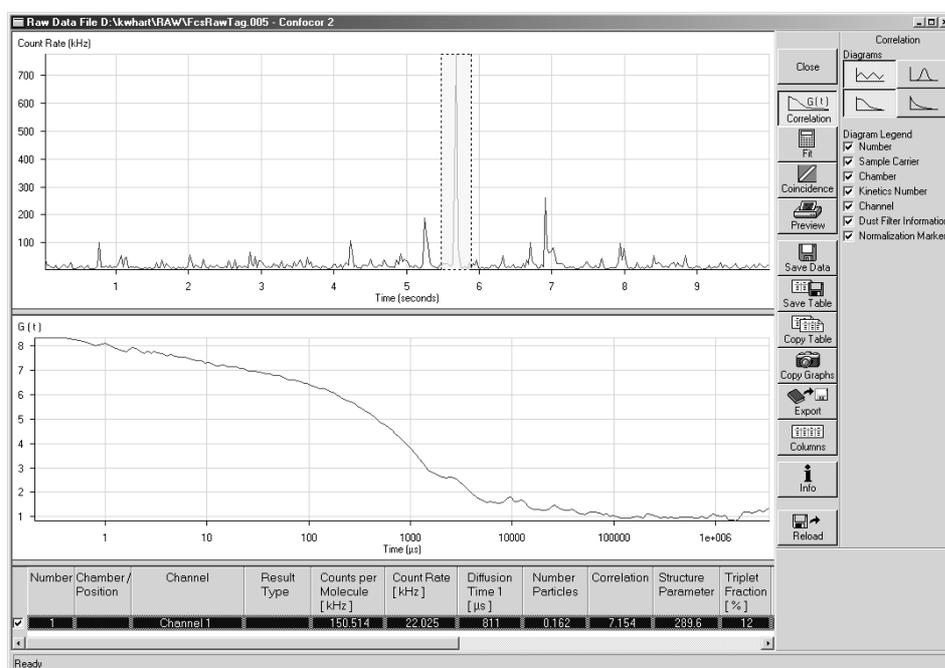

**Fig. 5-368** The Options menu for loading raw data files with dust filter set to user defined
- Selection of **User** (see Fig. 5-368) will give you the possibility to select up to ten regions that should be discarded for correlation analysis (for auto and cross-correlation). Type in the respective start times and end times in s of the regions you want to discard. To this end it is recommended to open the raw data with the dust filter set to **Off**, look for the peaks you want to cut out, and reopen the same raw data file by pressing the **Reload** button. Type in the corresponding boundary values and click ok. Alternatively, press **Select**, click with the left mouse button in the old opened file and position the two black bars to frame the region that you want to discard. Press **Select** again, which will display the position of the boundaries. Click ok and the diagram will reopen. The discarded regions will appear greyed out (see Fig. 5-369, 5-370). The regions taking into account and separated by discarded regions will be separately correlated and the average will be displayed. The **Reset** button will reset all typed in values to zero.